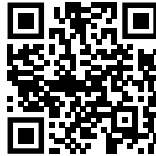

Fig. 155
► Åpne Liebherr SmartMonitoring Dashboard. (se Fig. 155)